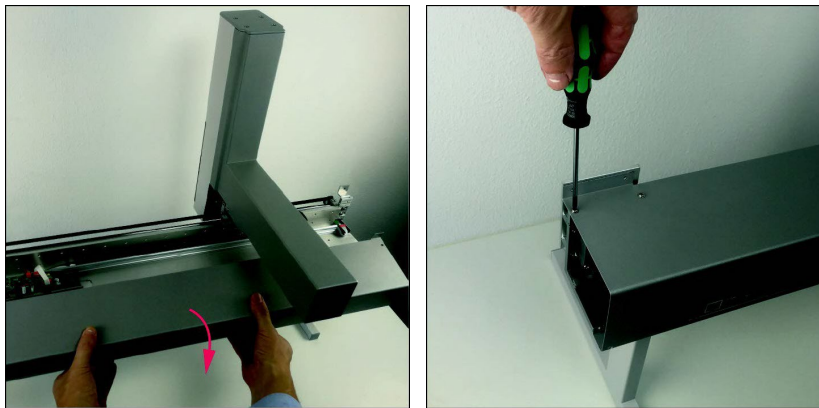

Figure 111: X-beam Rear Cover Assembly 4
- Using a Torx Tx10 screwdriver, fasten the upper left (one screw) and right (two screws) screw positions. See Figure 111.